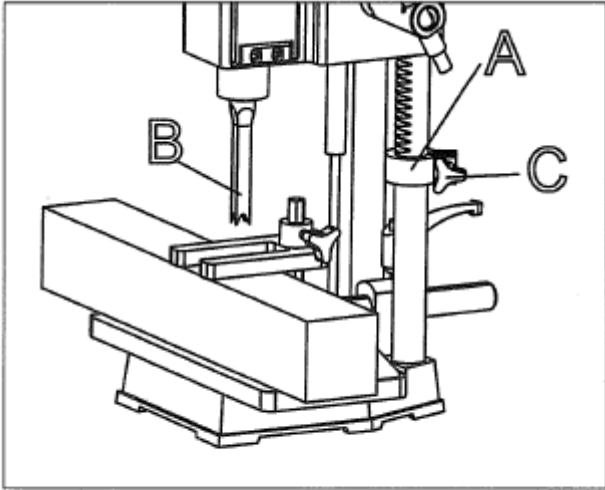

Fig. 11
See Fig. 11. A depth stop guide (A) is provided to limit the depth of the chisel (B). To adjust the depth stop guide (A), loosen screw (C) and lower the head until the chisel (B) is at the desired depth. Lower the depth stop guide (A) until it is at the desired depth, then tighten screw (C).